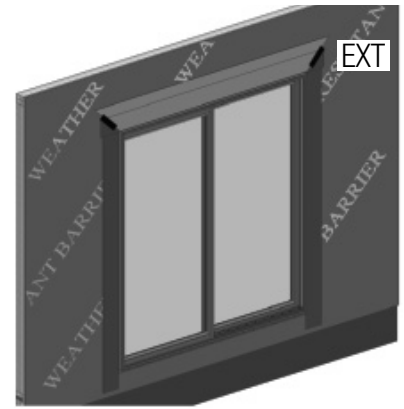

FIG. 19
- E) Tape the cut seams of the WRB. (Fig. 19)